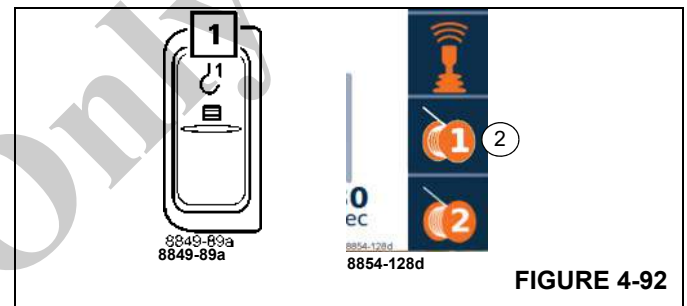

FIGURE 4-92
- Press the button (1), (Figure 4-92) once.
- Symbol (2) is red when the main hoist is switched off.